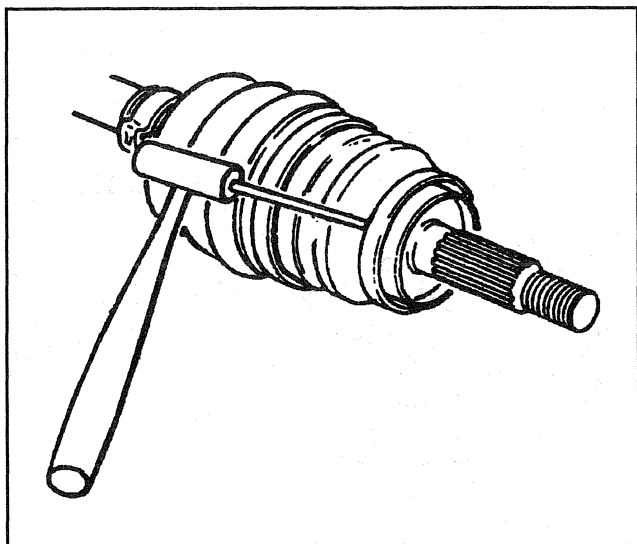

Figure 51—Removing Outer Deflector Ring
Remove or Disconnect (Figures 51 and 52)
1. Deflector ring from C/V outer race with a brass drift and a hammer (Figure 51).